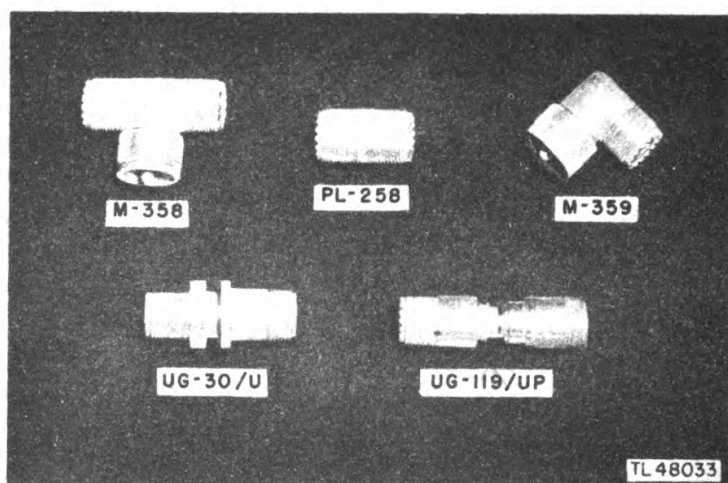

Figure 19. R-f and video adapters and connectors.
a. Adapter M-358 (fig. 19). This adapter is a T-type connector as made by Selectar Manufacturing Company. It is used to connect Dummy Antenna TS-208/MPM and Test Antenna TS-210/MPM to the receiver of Radio Equipment RC-184 for alignment purposes.
b. Adapter M-359 (fig. 19). This adapter is a video-type, male to female, right-angled connector. It is used with Adapter M-358 for alignment of the radio receiver. It connects Socket SO-239 and Plug PL-259. The male portion of the adapter has a coupling unit to fit Socket SO-239.
d. Crystal Adapter UG-119/UP (fig. 19). The crystal adapter has a type N plug on one end and a Socket SO-239 on the other end. The adapter serves as a holder for crystal 1N21-B which is used in Echo Box TS-207/UP.
22. PLUG PL-258 (fig. 19).
23. RADIO-FREQUENCY JACK UG-30/U (fig. 19).